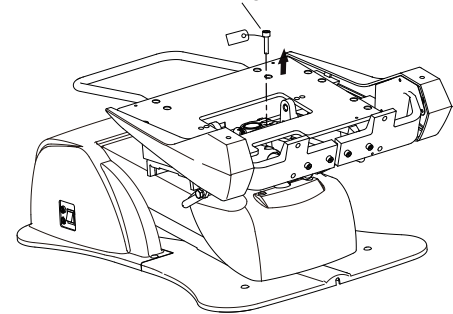

Fig 4-1-4
4) Place the chair on a horizontal floor. Remove the red tagged shipping bolt from the seat structure using a 13mm socket (See Fig 4-1-4)